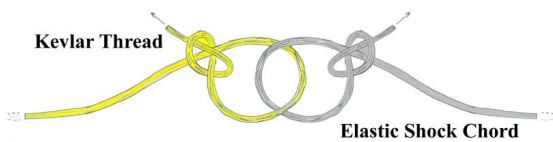

Figure 7
- **Step 22** Attach the elastic shock chord to the end of the Kevlar mount thread as shown in Fig. 7, above. Attach the other snap link to the free end of the elastic chord. Apply a layer of thinned glue to both knots to secure them, and allow to dry.